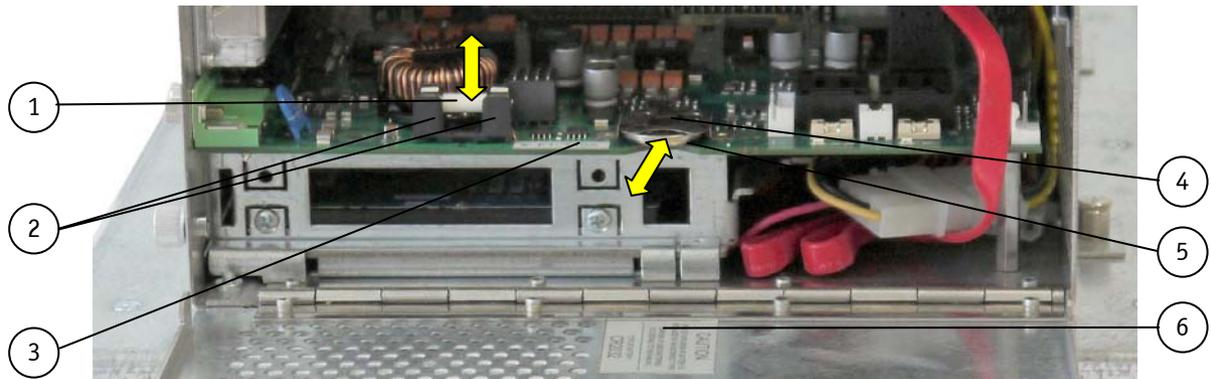

Fig. 27: Detail of the V Panel Express – OPERATOR ACCESS AREA
The HDD, the expansion cards, the fuse and the Lithium battery are located in an “OPERATOR ACCESS AREA”. The area behind the access door (Fig. 13, pos. 2) designed as “OPERATOR ACCESS AREA” may only be opened for installing/removing of HDDs, expansion cards, or checking/replacing the fuse, or replacing the Lithium battery by qualified specialist personnel according to the description in this user’s guide. Please observe the labels (Fig. 27, pos. 3 and pos. 6).
The HDD, the expansion cards, the fuse and the Lithium battery are located in an “OPERATOR ACCESS AREA”. The area behind the access door (Fig. 18, pos. 1) designed as “OPERATOR ACCESS AREA” may only be opened for installing/removing of HDD’s, expansion cards, or checking/replacing the fuse, or replacing the Lithium battery by qualified specialist personnel according to the description in this user’s guide. Please observe the labels (Fig. 27, pos. 6 and Fig. 28).
2. Pull the battery (Fig. 27, pos. 5) outwards.
3. Position the Lithium battery in the Lithium battery holder (Fig. 27, pos. 4) with the positive (+) terminal face-up. Gently push the battery into the holder in as far as it goes.
The HDD, the expansion cards, the fuse and the Lithium battery are located in an “OPERATOR ACCESS AREA”. The area behind the access door (Fig. 18, pos. 1) designed as “OPERATOR ACCESS AREA” may only be opened for installing/removing of HDDs, expansion cards, or checking/replacing the fuse, or replacing the Lithium battery by qualified specialist personnel according to the description in this user’s manual. Please observe the label (Fig. 27, pos. 3 and Fig. 29).